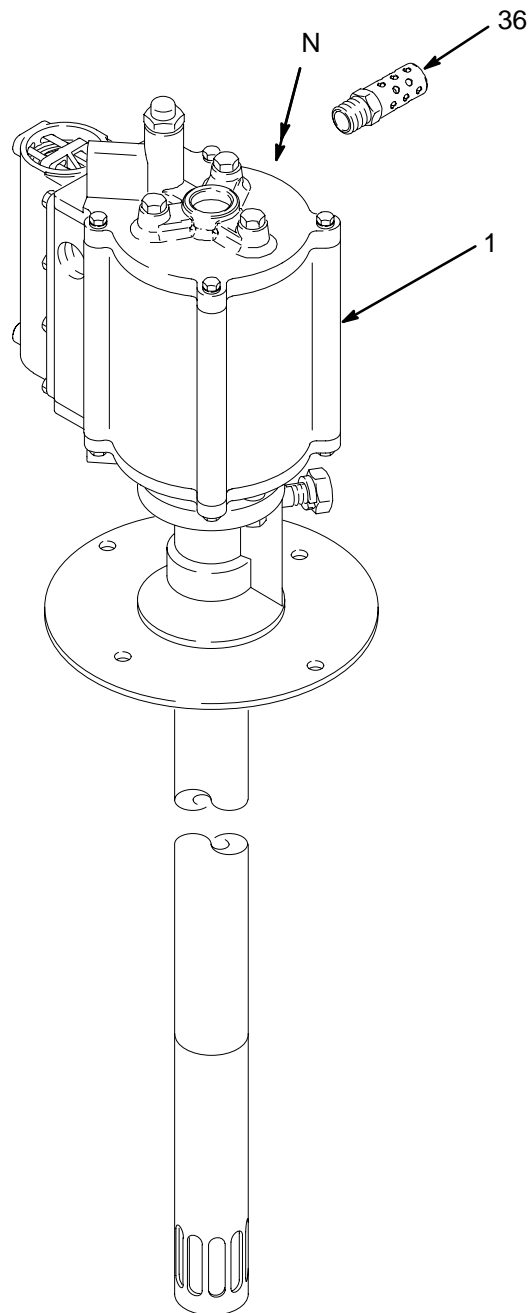

Fig. 1
This equipment consists of two major components: the air motor (1) and the displacement pump. See Fig. 1. The pump is an in-line design, which means that the displacement pump screws directly into the motor, without the use of tie rods or couplers. The displacement pump can be placed directly in the fluid being pumped.
Make sure the muffler (36) is securely installed in the exhaust port (N) before you operate the pump. See Fig. 1.